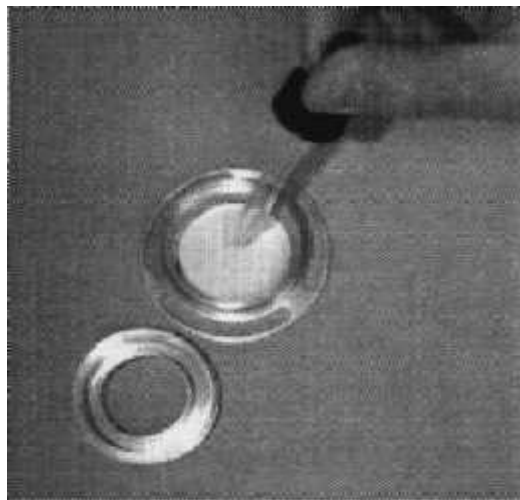

Figure 5-4 : Coating the 37mm glass-fibre filter with oil (tetramethyl tetraphenyltri-siloxane)
- 5.3.12 Place 42 to 44 drops of impactor oil (tetramethyl tetraphenyltri-siloxane or R&P part number 59-004292) onto the glass-fibre filter (Figure 5-4).